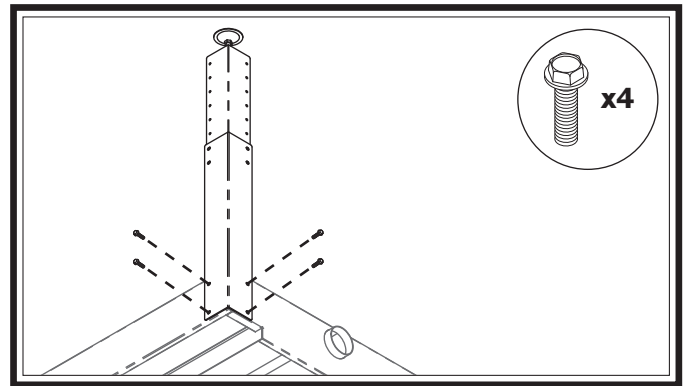

Figure 5. Attaching leg assembly to table.
- Attach each support leg assembly to each corner of table using (4) 5/16"-18 x 1/2" flange bolts (see **Figure 5**).